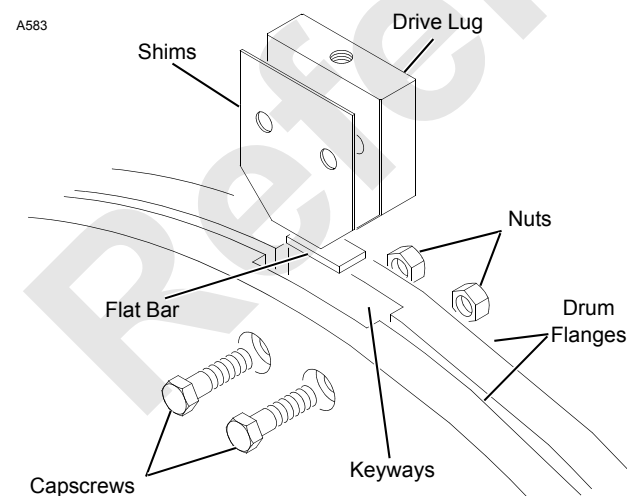

FIGURE 3-56
See Figure 3-56 for the following procedure.
3. Remove the drive lug, shims, and flat bar from the keyways (Figure 3-56). Store all parts.